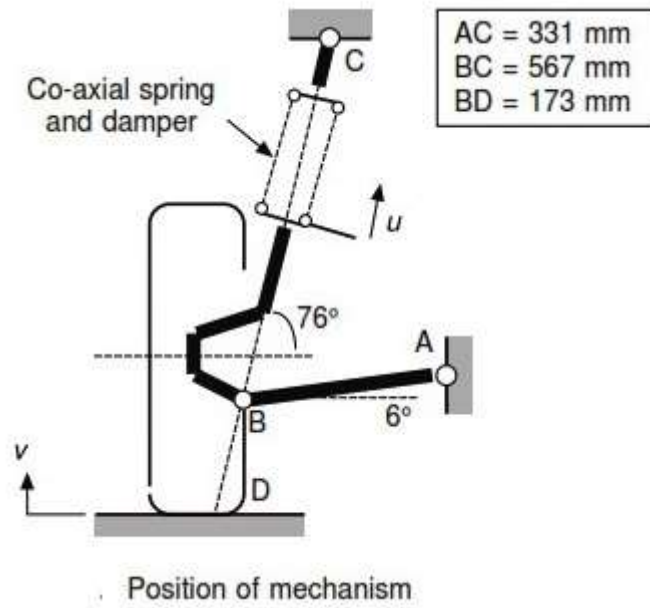

Fig. 3. MacPherson strut
- (c)** Consider the MacPherson strut given in Figure 3. By graphical approach determine (a) the suspension ratio R (the rate of change of vertical movement at D as a function of spring compression) and (b) the bump to scrub rate for the given position of the mechanism. **07**